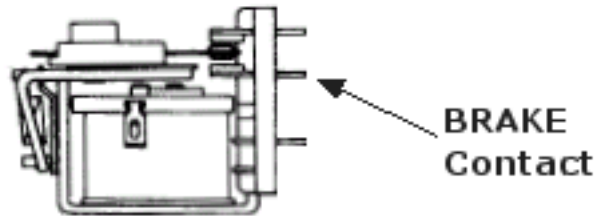

FIG 1
6. Take note of any wire that connects to the relay's "Brake" contact (FIG 1). This is the original "Brake" wire and must be removed.